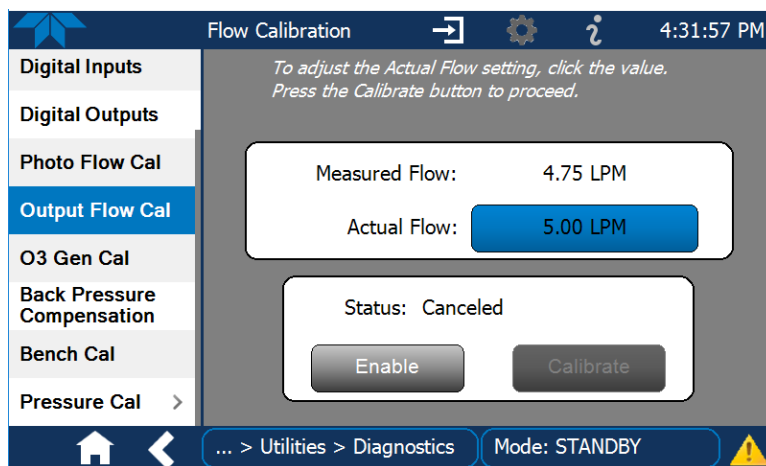

Figure 5-8. Output Flow Calibration Menu
2. Navigate to the Utilities>Diagnostics>Photo Flow Cal menu (Figure 5-8).
2. Navigate to the Utilities>Diagnostics>Output Flow Cal menu (Figure 5-8).